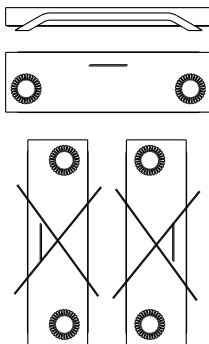

Fig. 1
- 6.3. Figure 1 shows the permissible operating positions of the device.